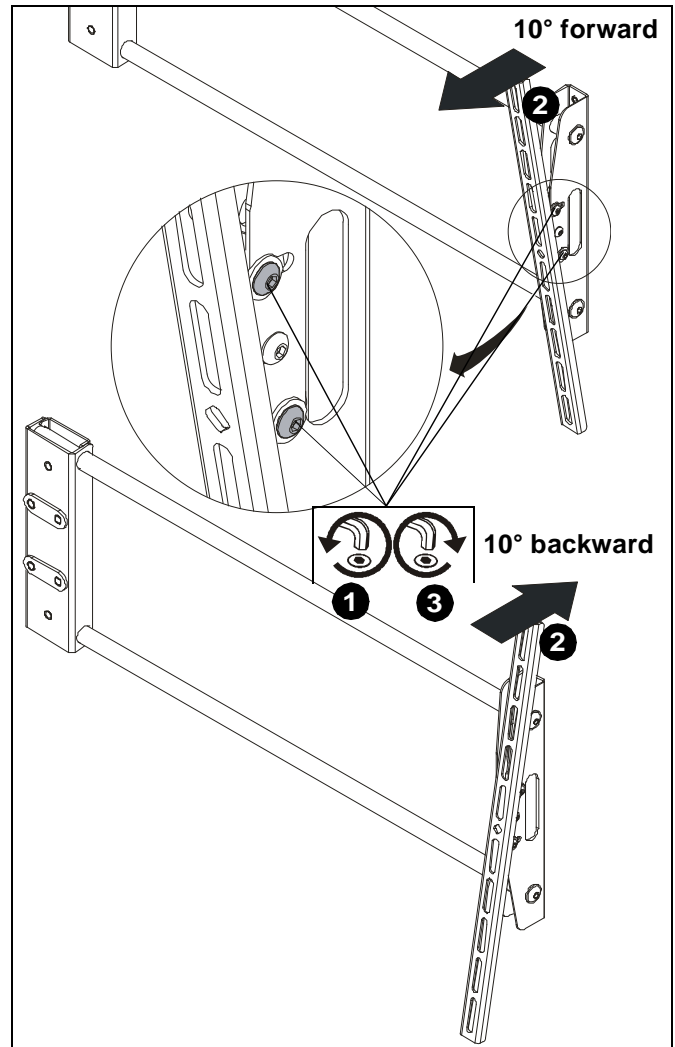

Figure 13
- Loosen (do NOT remove) upper and lower button head cap screws (L) holding speaker brackets (A) to rail extensions (B). (See Figure 13)
- Tilt speakers forward or backward as desired. (See Figure 13)
- Tighten upper and lower button head cap screws (L) holding speaker brackets (A) to rail extensions (B). (See Figure 13)